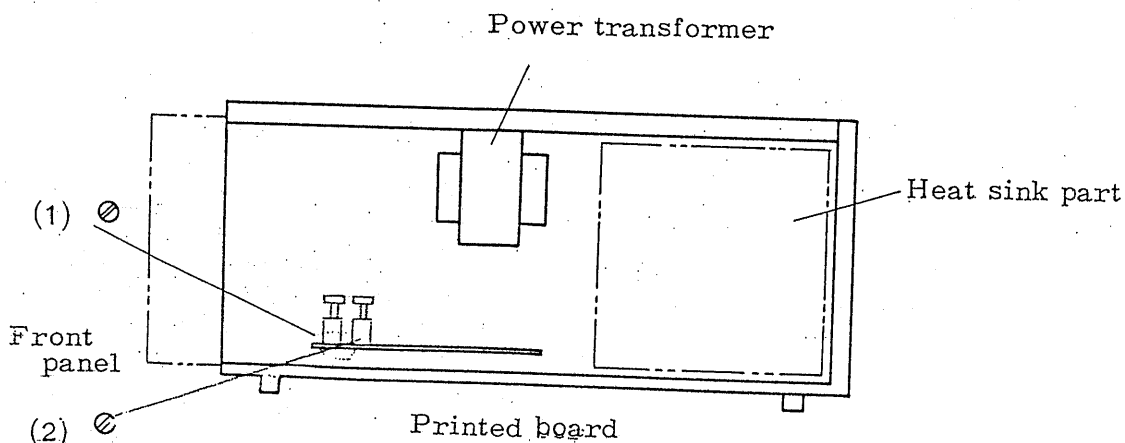

Fig.9
With the voltage adjusting knob on panel turned fully to counterclockwise, adjust the semi-fixed resistor in the printed board (one with copper foil in the printed board, semi-fixed resistor in Fig. 9 (1)). In this case, adjust the output voltage within the range of ± 0.5 V.
With the voltage adjusting knob on panel turned fully to clockwise (when provided with fine adjustment knob, almost at central position) adjust the semi-fixed resistor in the printed board (semi-fixed resistor of Fig.9 (2) of the semi-fixed resistors with many parts in the printed board).